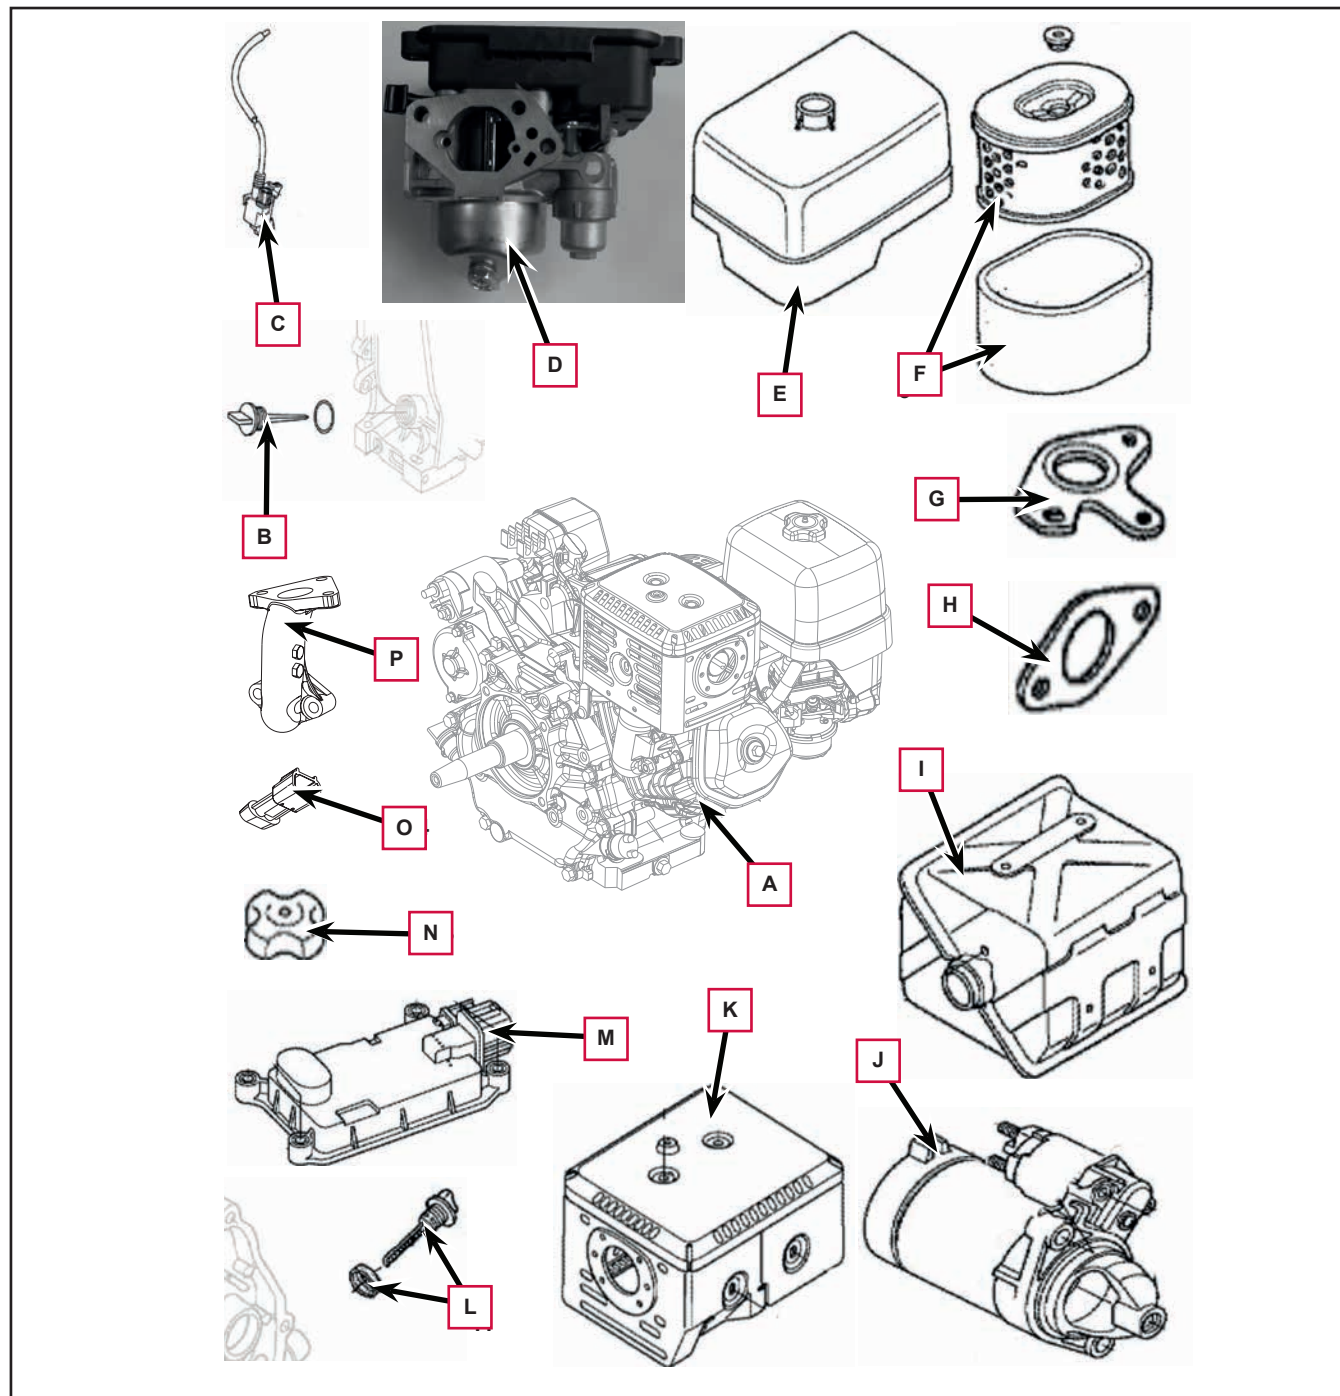

Figure 24
1. Alternator complete (A, Figure 24).
2. Heat sink (B).
3. Bridge rectifier (C)
4. Resistor (D).
5. Grid side (E).
6. Temperature sensor (F).